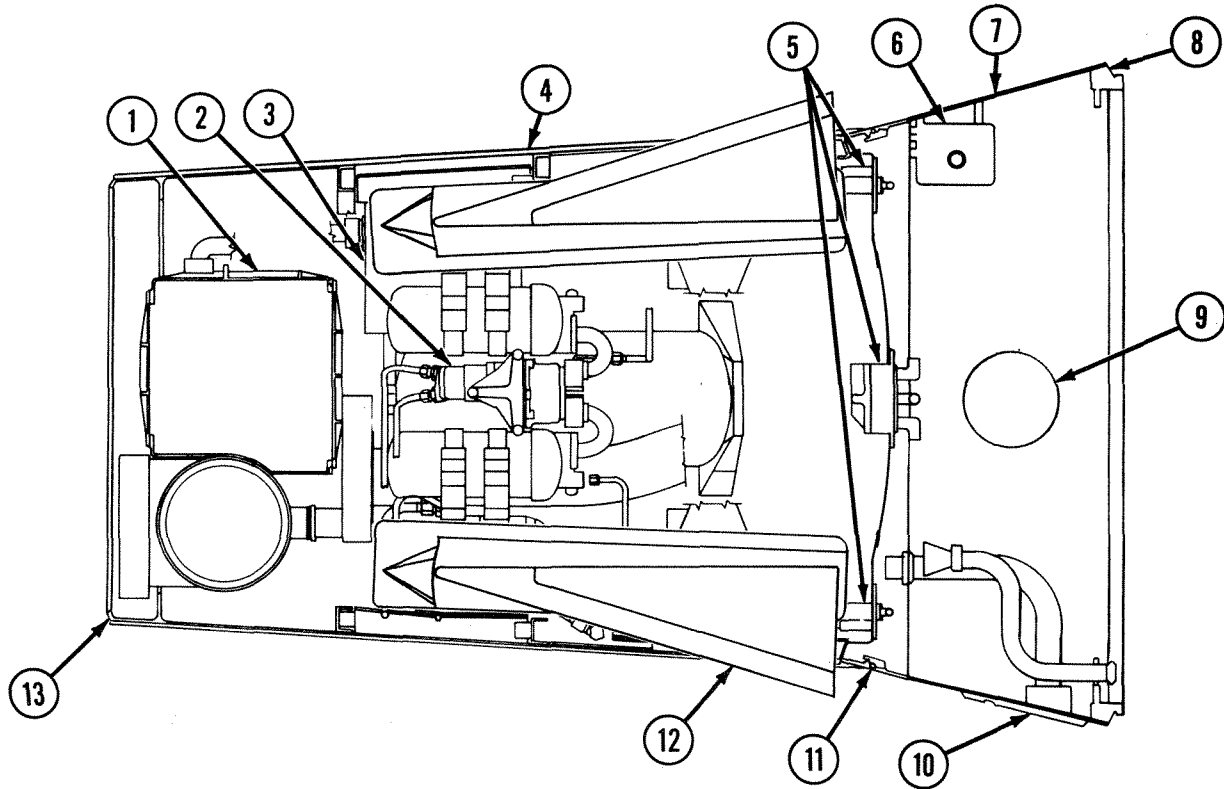

Figure 2-9. G&C/A Major Features
c. G&C/A. The G&C/A consists of the guidance and control (G&C) and the adapter assemblies. Figure 2-9 shows G&C/A major features.